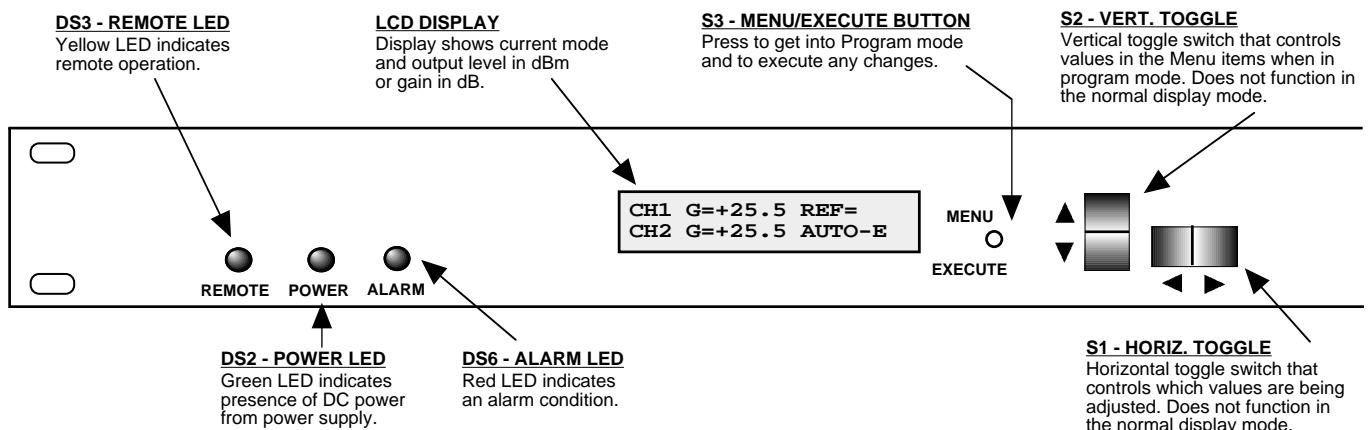

FIGURE 2.2 3116-22-23# Front Panel Controls and Indicators
Figure 2.2 shows the front panel controls and indicators.
5. Be sure DS2 (green, DC Power) is on and DS6 (red, Alarm) is off (Figure 2.2).
Alarm indications appear on the LEDs (see Figure 2.2).